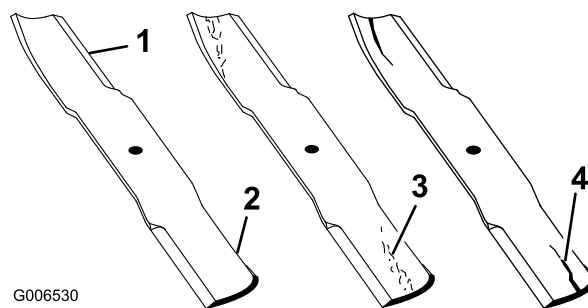

Figure 49
1. Inspect the cutting edges (Figure 49).
2. Inspect the blades, especially the curved area (Figure 49).
Note: If you notice any damage, wear, or a slot forming in this area (item 3 in Figure 49), immediately install a new blade.